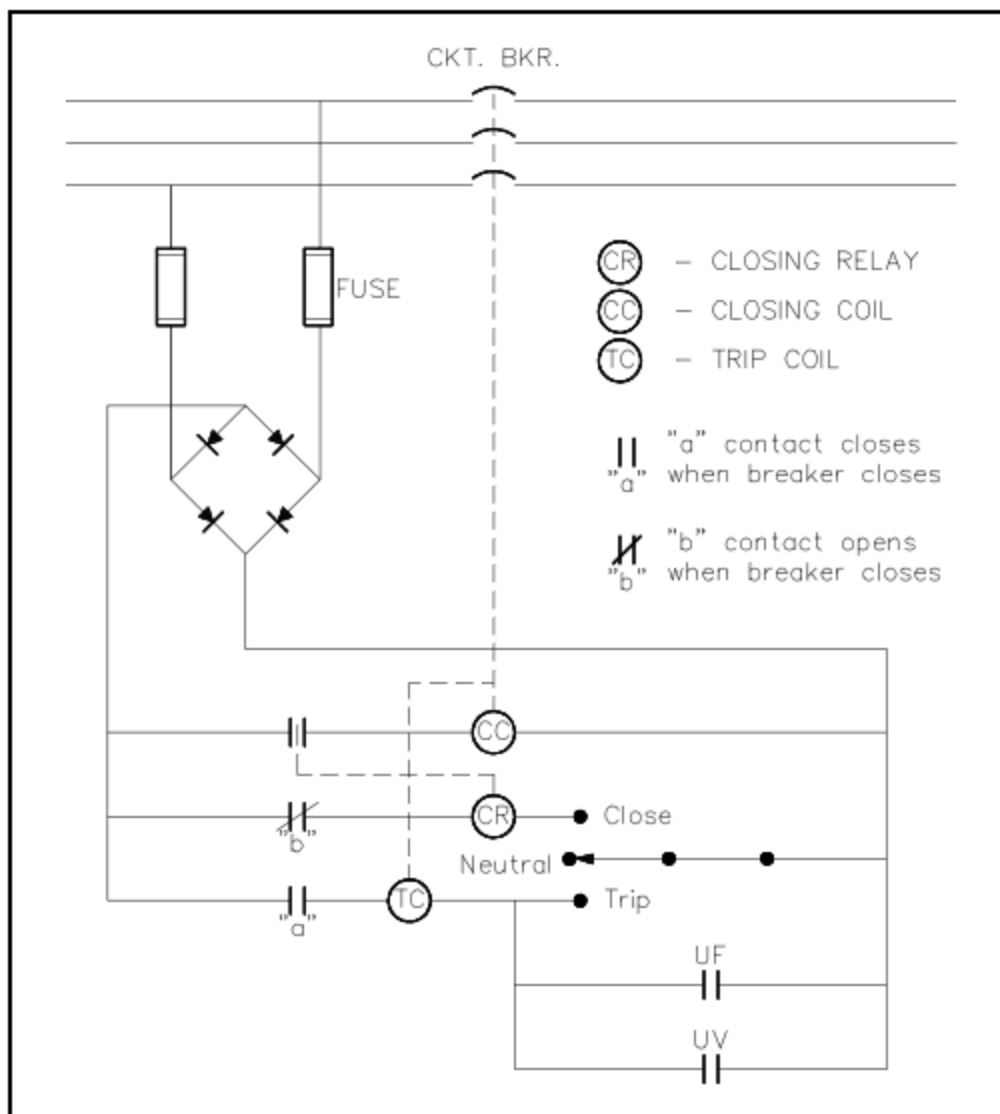

Figure 8 Simple Circuit Breaker Control Circuit - Breaker Closed
To close the remotely-operated circuit breaker, turn the circuit breaker control switch to the close position. This provides a complete path through the closing relay (CR) and energizes the closing relay. The closing relay shuts an auxiliary contact, which energizes the closing coil (CC), which, in turn, shuts the circuit breaker, as shown in Figure 8. The breaker latches in the closed position. Once the breaker is shut, the "b" contact associated with the closing relay opens, de-energizing the closing relay and, thereby, the closing coil. When the breaker closes, the "a" contact also closes, which enables the trip circuit for manual or automatic trips of the breaker. The circuit breaker control switch may now be released and will automatically return to the neutral position.